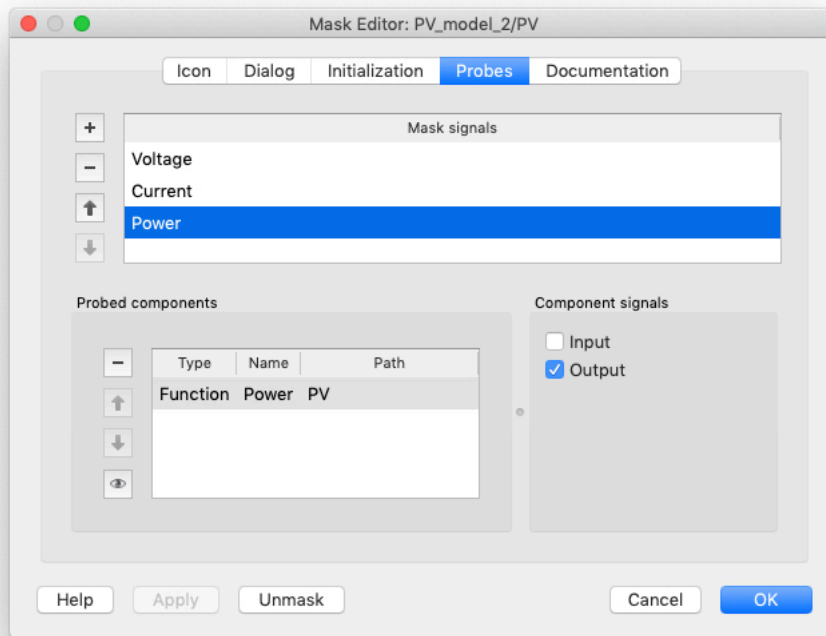

Figure 6: Create probe signals using the Mask Editor
- 3** Under the **Probes** tab of the Mask Editor window, the custom probe signal list can be created. Click the **Add** button to define a new probe signal and name this Voltage. Then drag in the Voltmeter block, “Vm1”, from your subsystem into the box labeled **Probed components** and check the **Measured voltage** signal in the **Component signals** list. Repeat this procedure to add probe signals for Current and Power. When creating the power signal, you will need to drag the power calculation function block into the **Probed components** window and check the **Output** box. At this stage, your Mask Editor window should be similar to that shown in Fig. 6.